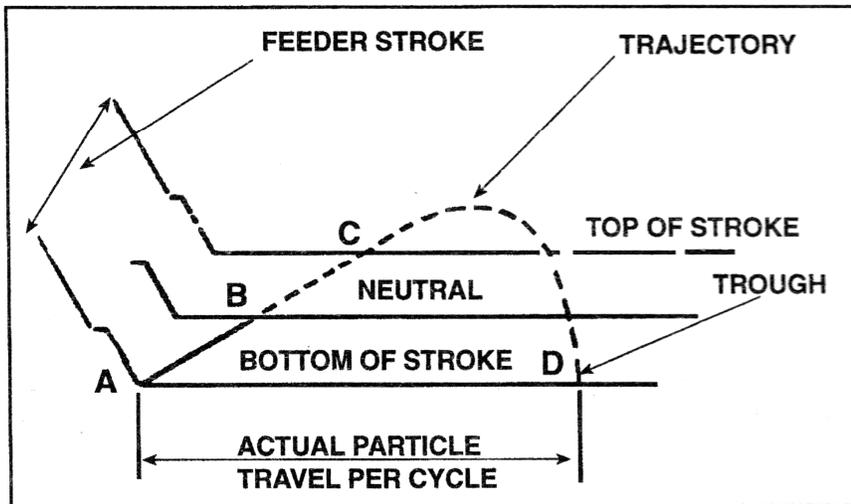

FIGURE 3 - MATERIAL FLOW ON TROUGH
Figure 3 illustrates the action of a single particle of the material moving along the trough surface. During a vibrating stroke, the trough surface travels between its lowest point (A) to its highest limit (C). The trough travels at its greatest velocity between (A) and (B). Although still traveling up and forward, the trough decelerates between (B) and (C). On the upward stroke, the particle of material is in contact with the trough from (A) to (B). At point (B) the velocity of the particle becomes greater than the trough and the particle leaves the trough surface on a free flight trajectory from (B) to (D). The particle lands back on the trough surface at a position further forward (D). This completes one cycle. Each cycle imparts a forward and upward flight of the material and it lands further along the trough toward the discharge.